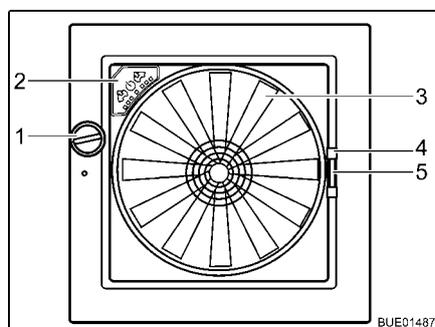

Fig. 128 Omni-Vent skylight
Opening: ■ Turn the knob (Fig. 128,1) until the desired opening angle is reached.
Closing: ■ Turn the knob (Fig. 128,1) until the skylight is fully closed.
Closing: ■ Using the handle (Fig. 128,4) pull the insect screen across to the other side of the frame.
- Press together the handle (Fig. 128,5) of the shade.
Fan If the skylight is open, the interior can be vented and aerated with the 6-speed fan (Fig. 128,3). The fan is operated via the operating panel (Fig. 128,2).